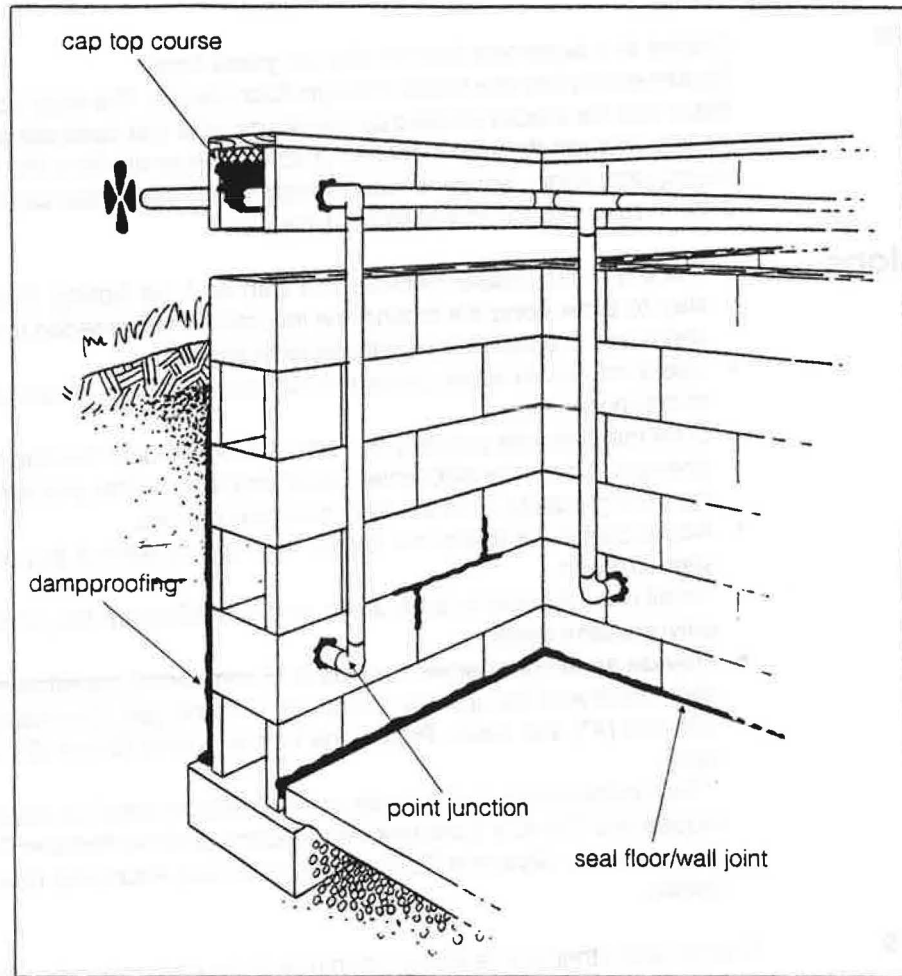

Fig. 12. How to treat hollow-block walls.
- For concrete block walls, cover the entire wall surface and the footing with a thick parge. Spread two coats of dampproofing materials over the parge on block walls and the footing cover. Extend over the footing as shown in fig. 12.